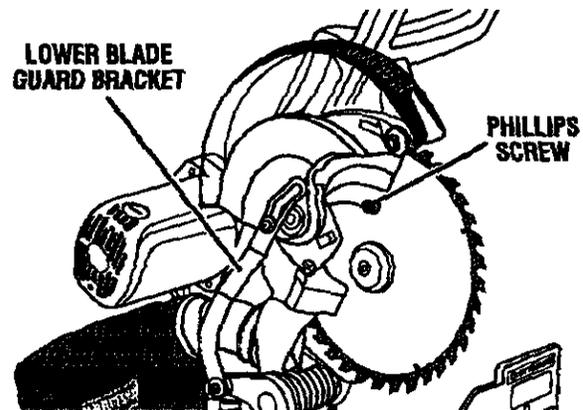

Fig. 16
See Figures 16 - 18.
- Fit saw blade inside lower blade guard and onto spindle. The blade teeth point downward at the front of saw as shown in figure 16.